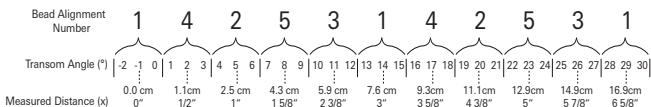

Figure 16
- If you already know your transom angle, refer to the chart below for the initial position to use to set the ratchets (Figure 16). If your transom is angled at 14 degrees (a common transom angle for many boats) use position 1 for the ratchets. In either case, go to step 2.
- If you do not know your transom angle, measure it using a plumb line (weighted nylon string or monofilament line) exactly 12 inches long. Hold the top of the plumb line against the top of the transom with your finger, and wait until the line hangs straight down (Figure 17). Using a ruler, measure the distance from the **bottom** of the plumb line to the back of the transom, then use the chart (Figure 16).